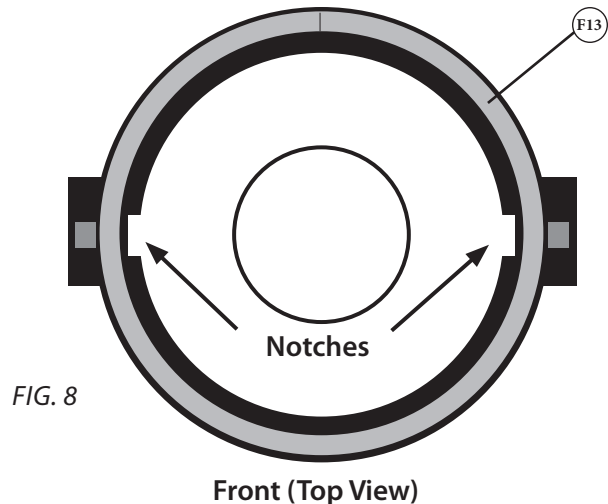

FIG. 8
- 7** Install Gasket (F13) around the top outer rim of the Cone Assembly (B) See [FIG 8.]